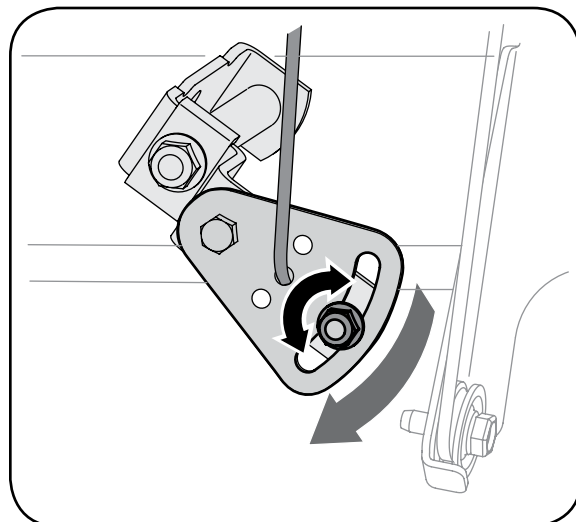

Figure 3
2. Loosen the hex nut on the shift cable index bracket. See Figure 3.